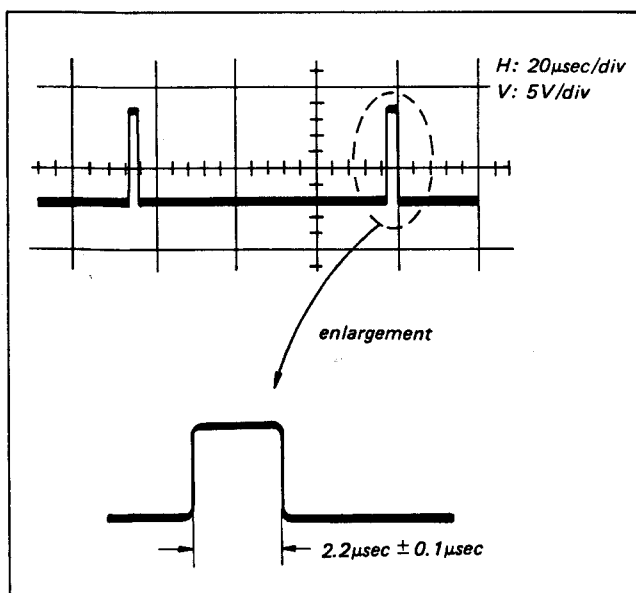

Fig. 5-27. Pilot burst flag adjustment
- i) Adjust to $2.2\text{ }\mu\text{sec} \pm 0.1\text{ }\mu\text{sec}$ with RV009. (See Fig. 5-27.)